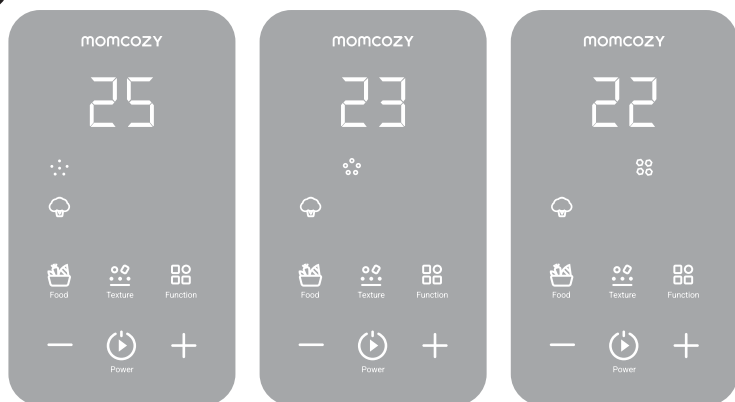
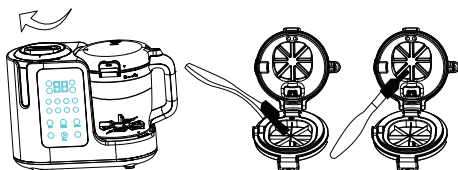
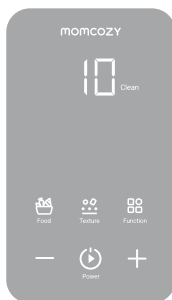

Fig.11
Fig.23
Fig.24
Select the  “Vegetable” icon + texture size  ,  , or  . Press the  “Food” button to select  “Vegetable” mode and choose the desired texture level:  ,  , or  . The icon for  “Vegetable” mode and the selected texture will remain on, while all other icons will turn off. The display will show 25/23/22 by default (adjustable from 5 to 30 mins), as shown in Fig.11. Once the countdown begins, the heating cup will start to heat up.
Remove the chopping blade, then place a heat-resistant food container with the prepared food (4-6 Oz capacity) into the cup. Fill the water tank with water below the MAX line. Turn the lid clockwise to close it tightly (see Fig.23, 24, and 25). This will trigger the safety switch, and you will hear a clicking sound.
Press the function “**Function**” button to select the Heat/Thawing “**Heat**” function. The Heat/Thawing “**Heat**” icon will turn on, while all other icons will turn off. The display will show a constant 10 (adjustable between 05-40 mins), as shown in Fig.24. The heating cup will then begin heating. Once the countdown reaches 00, heating will stop. After 5 beeps, the product will automatically return to standby mode.
Once the function finishes, unplug the product (Fig.11), open the blending cup lid, remove the large cup, pour out the water, and wipe the cup body clean with a dry cloth (Fig.23). It is recommended to clean the product after each use.
2. Fit the cleaned blending blade seat into the sealing ring, making sure the orientation is correct and not reversed (see Fig.23). The sealing ring should fit snugly against the red ring near the drive head (see Fig.24).